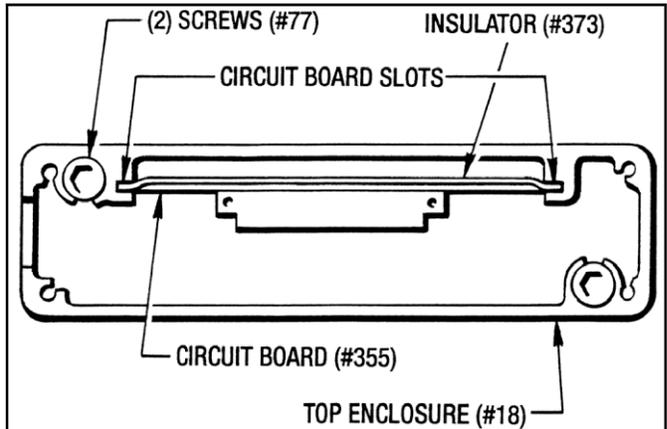

Figure 9.11 - Circuit Board Slots
8. While holding the Circuit Board upright slide the Upper Enclosure (#18) down over the Circuit Board onto the Disc Housing. Make sure the edges of the Circuit Board are in the (2) side retaining slots located in the Upper Enclosure. (See *Figure 9.11*)
9. Check the Gasket (#19) to see if it is still in place. Insert the (2) Screws (#77) and tighten down.
10. Slide the Insulator (#373) down and into the Upper Enclosure (#18) behind the Circuit Board (#355) placing the upper tabs into the circuit board slots. (See *Figure 9.11*)